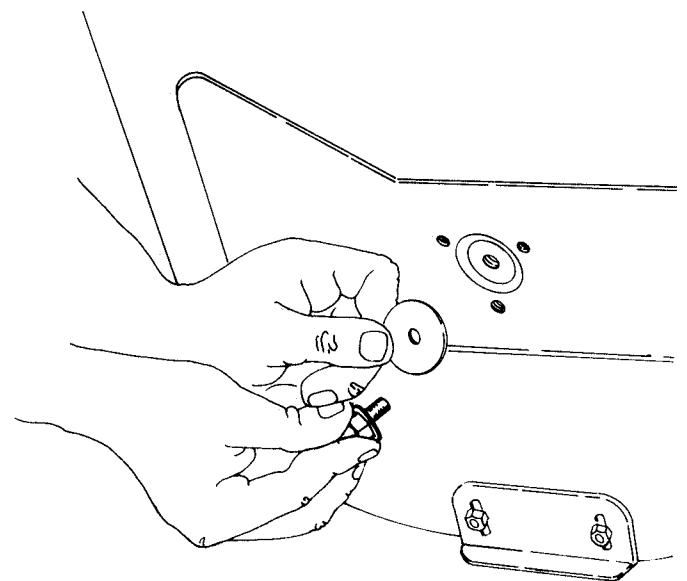

FIGURE 3.12 — AUGER SHAFT FLAT WASHERS
STEP 2. Remove the capscrews and flat washers from both ends of the auger shafts. Don't forget these flat washers during re-assembly. (Figure 3.12).
STEP 4: Secure both ends of the auger shaft with a flat washer and 1/2" long capscrew as shown in figure 3.12